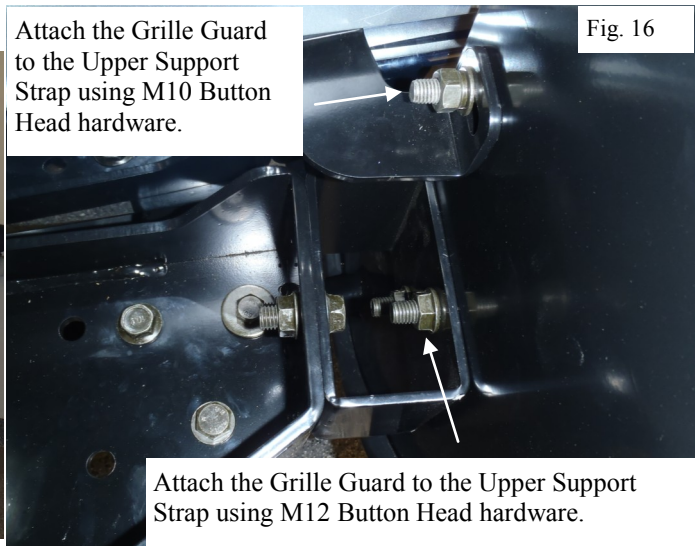

Fig. 16
14. With assistance loosely install the Grille Guard on the previously installed Spacer Brackets using the supplied M12 Button Head Bolts (Figure 16).
15. Loosely bolt the Upper Support Strap to the Grille Guard using the supplied M10 hardware (Figure 16).